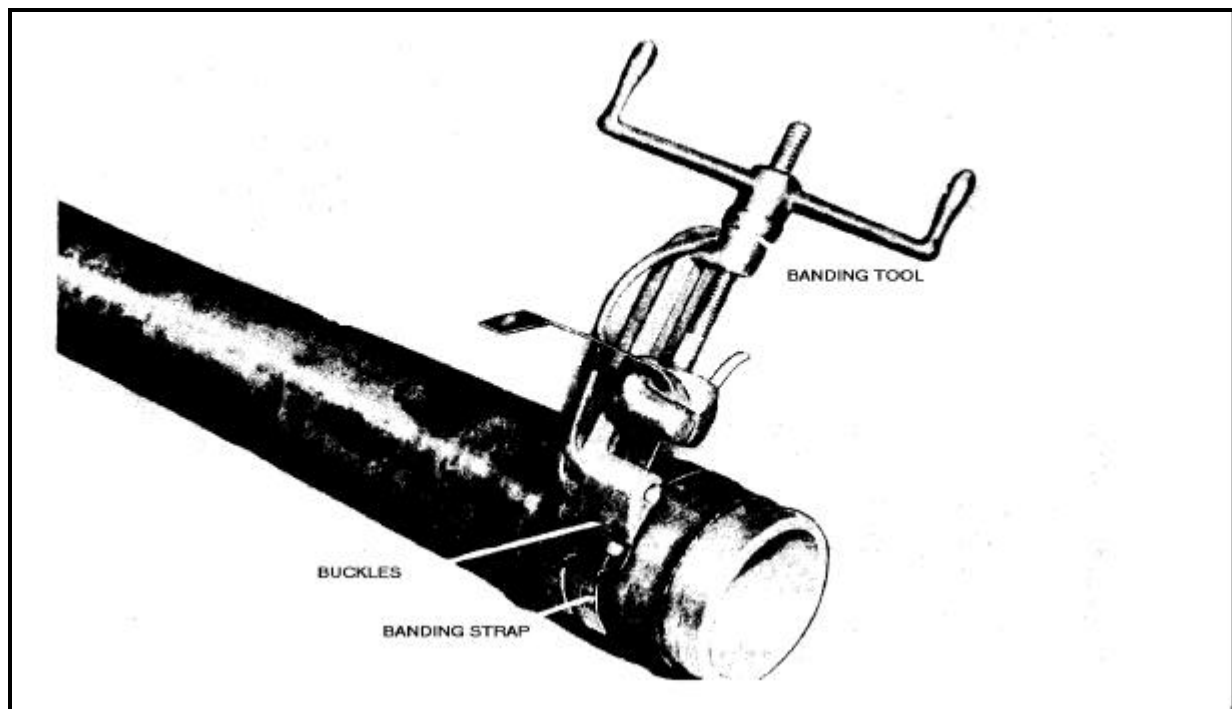

Figure 27-13. Coupling repair showing the use of the banding tool
- Use the banding tool, which comes with the repair kit, to put banding straps on the hose as shown in Figure 27-13, page 27-10.